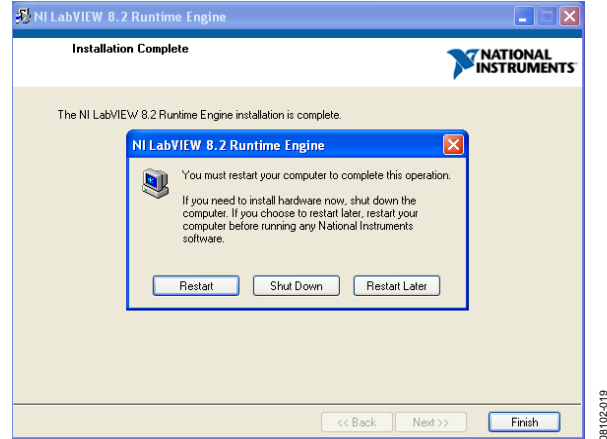

Figure 18. Restart Screen
9. When the screen in Figure 18 appears, click **Restart**. The computer must be restarted to complete installation.